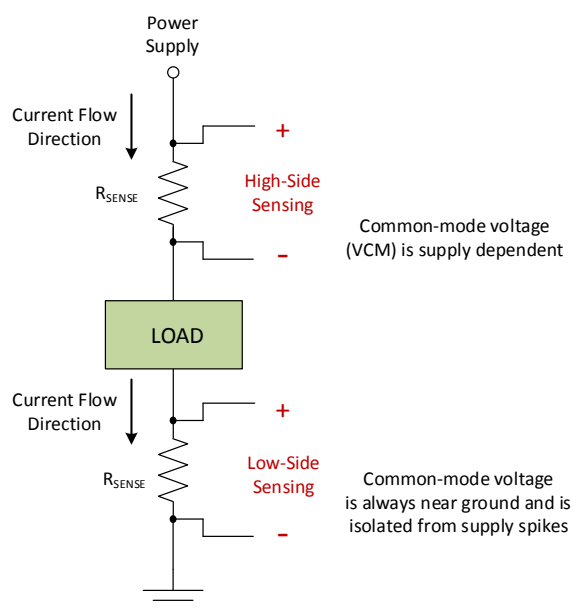

Figure 1. Current Sensing Methods
- For most applications, current measurements are made by sensing the voltage drop across a resistor. There are two locations in a circuit that resistors are commonly placed for current measurements. The first location is between the power supply and load. This measurement method is referred to as high-side sensing. The second location a sense resistor is commonly placed is between the load and ground. This method of sensing the current is referred to as low-side current sensing. Both these methods to sense current in a load are shown in Figure 1.